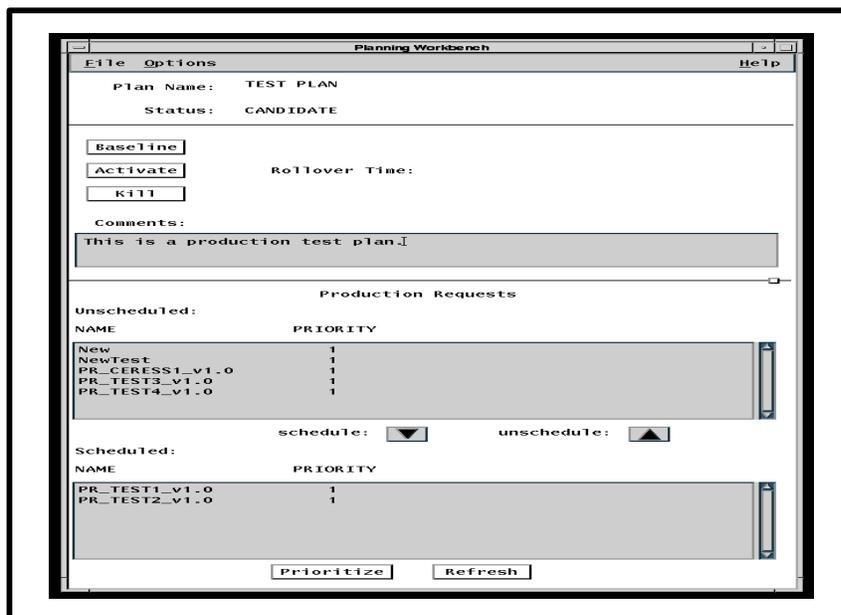

Figure 11.14.4-1. Planning Workbench GUI
- A Planning Workbench GUI will be appeared as shown in **Figure 11.14.4-1**.
Planning Workbench GUI is displayed (Figure 11.14.4-1)